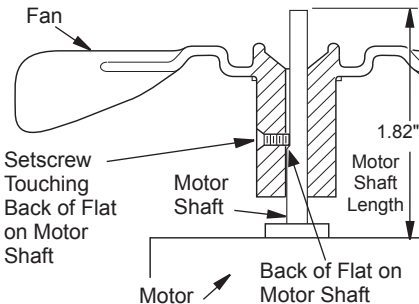

Figure 7 - Fan Cross Section
2. The fan is located with the set screw in contact with the back of flat on motor as shown in Figure 7.